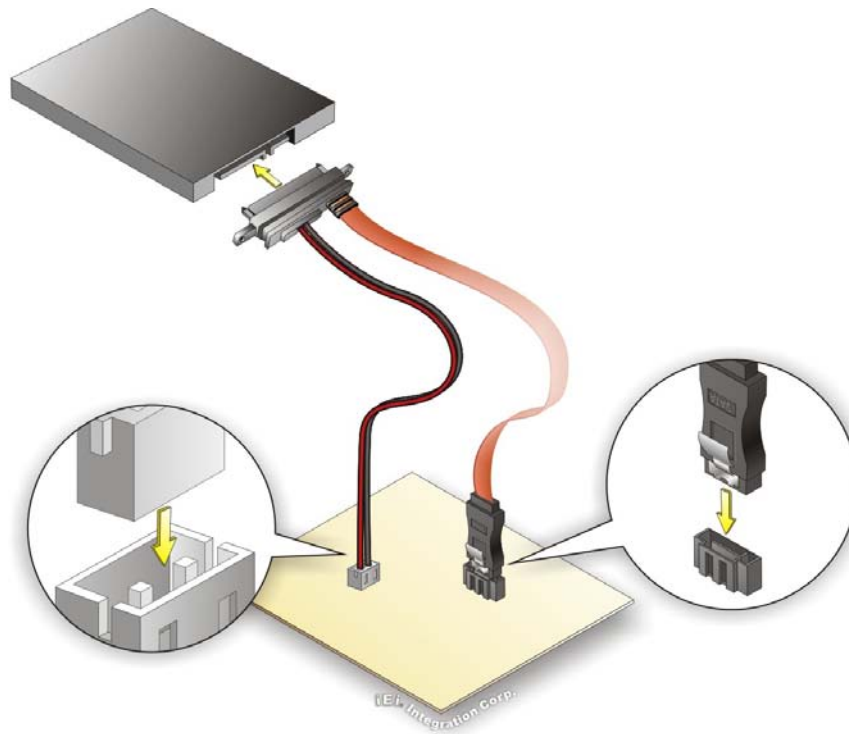

Figure 4-14: SATA Drive Cable Connection
- Step 2:** **Insert the cable connector.** Insert the cable connector into the on-board SATA drive connector and the SATA power connector. See **Figure 4-14**.
- Step 3:** **Connect the cable to the SATA disk.** Connect the connector on the other end of the cable to the connector at the back of the SATA drive. See **Figure 4-14**.